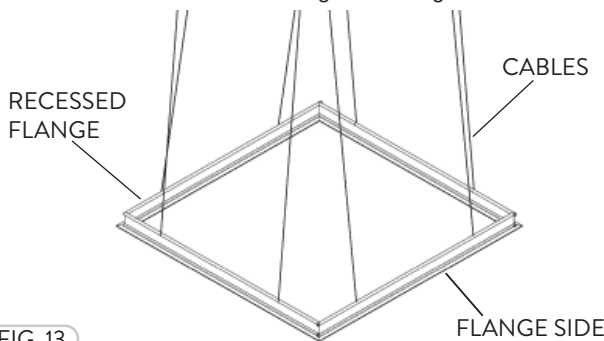

FIG. 13
- 2 Notch out the ceiling drywall surface. Insert the preassembled Recessed Flange frame flush to the ceiling leaving the Flanged Side underneath the ceiling. If the drywall ceiling is thin install the Cables to support the frame and the fixture. Cables are not included with the Recessed Flange frame (Fig. 13).